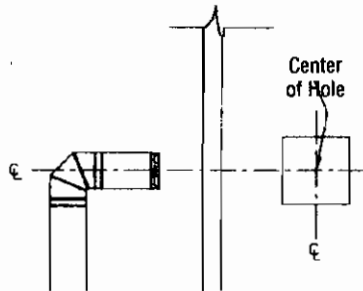

Figure 17
C. With the pipe attached to the appliance, slide the appliance into its correct location, and mark the wall for a 10" x 10" square hole. The center of the square hole should line up with the centerline of the horizontal pipe as shown in Figure 17. Cut and frame the 10" square hole in the exterior wall where the vent will be terminated. Install the Wall Thimble (Dura Vent Part No. 942) into the frame opening. If the wall being penetrated is constructed of noncombustible material, i.e. masonry block or concrete, a 7" diameter hole is acceptable, and the Wall Thimble is not needed.